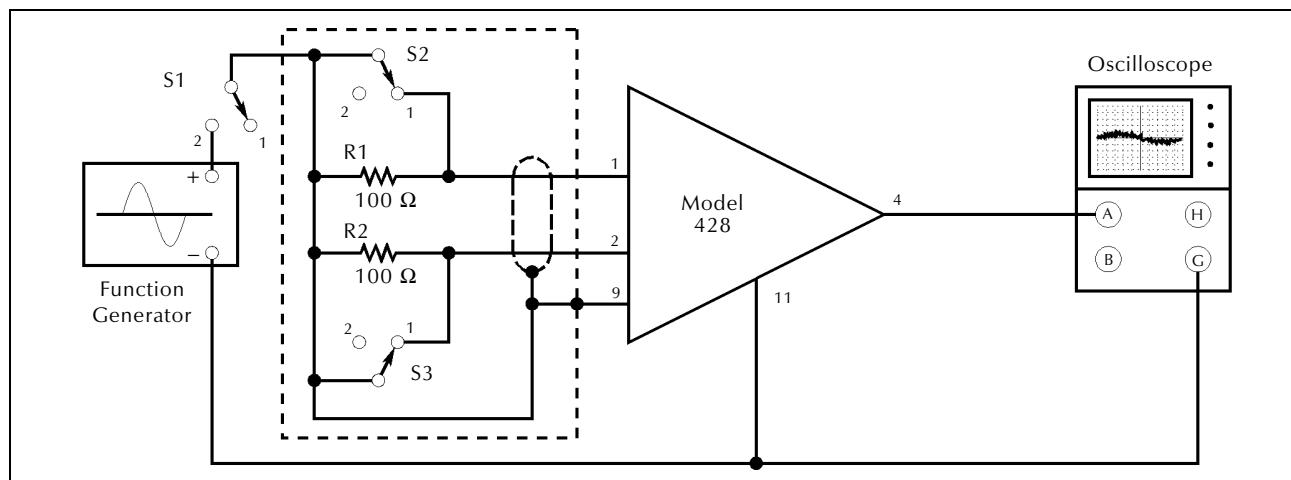

Figure 5-9
1. Connect the amplifier to be tested as shown in Figure 5-9, and set the gain to 1000 (1024 for Option G). For R1 and R2, use either metal-film or carbon-film or carbon-composition resistors.
1. Connect the amplifier to be tested as shown in Figure 5-9, and set its gain to 1000 (1024 for Option G).